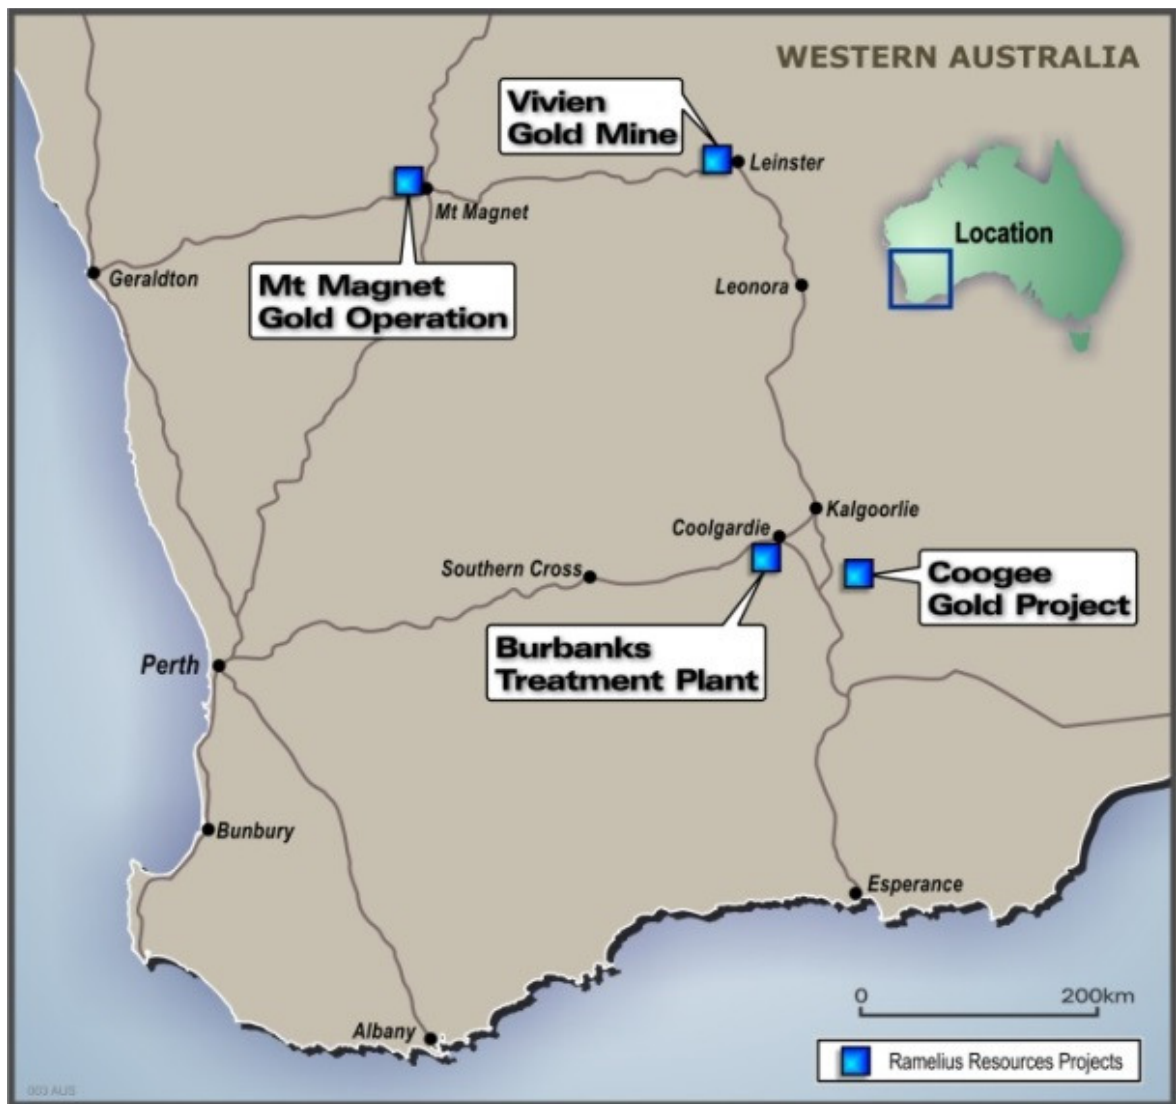

Figure 1: Western Australian project locations
The Directors of gold producer, Ramelius Resources Limited, (ASX:RMS) are pleased to announce that selected infill and plunge extension Reverse Circulation (RC) drilling will be undertaken in the coming few months around newly interpreted lode positions at the Vivien gold project, 20km west of Leinster, and at the Coogee gold mine south of Kalgoorlie – both in Western Australia (Figure 1).